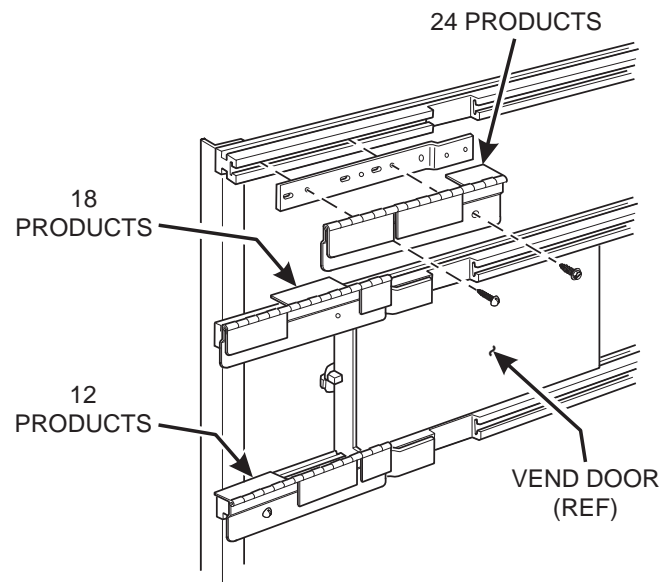

Figure 4-3. Product Door Stop Adjustment
1. Adjust each set of door stop(s) as shown (figure 4-3) to match the number of selections on that level.